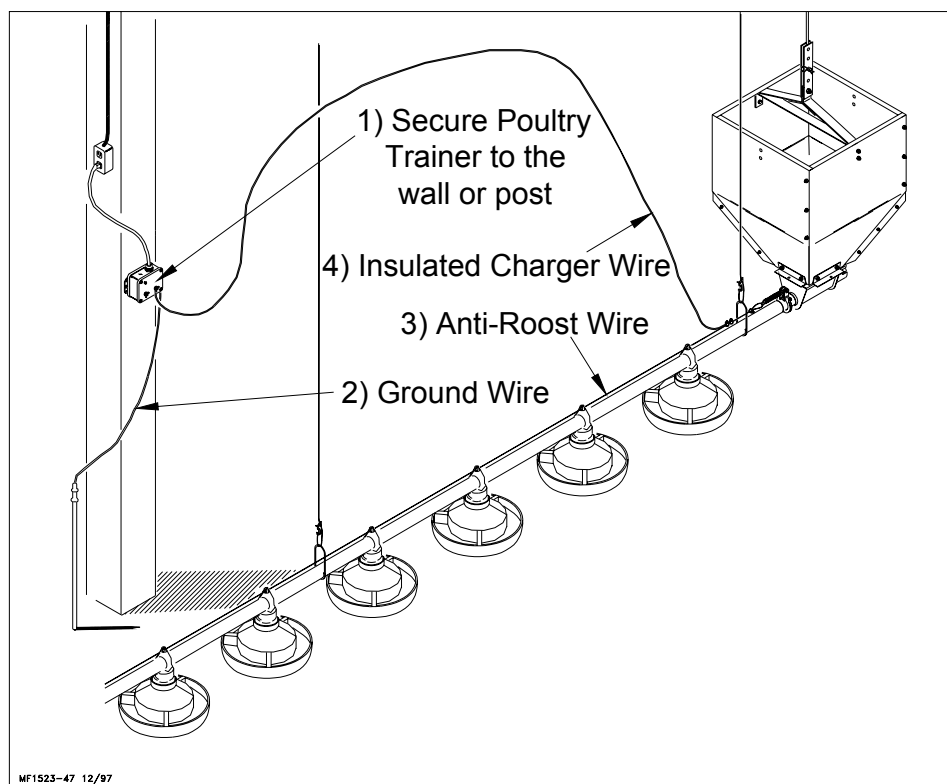

Figure 52. Poultry Trainer Installation
11. Install the Poultry Trainer or Line Charger, as shown in **Figure 52 or 53**.
The Poultry Trainer is used to power all Anti-Roost lines in a house. See **Figure 52**.